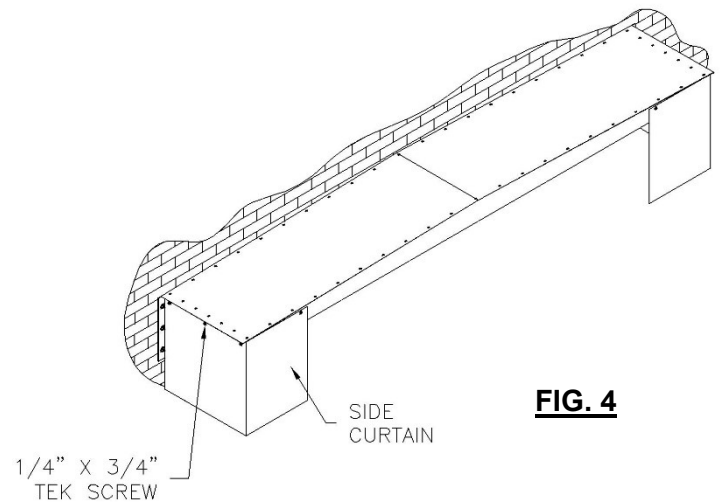

FIG. 4
a. Attach side curtains (Fig 4).